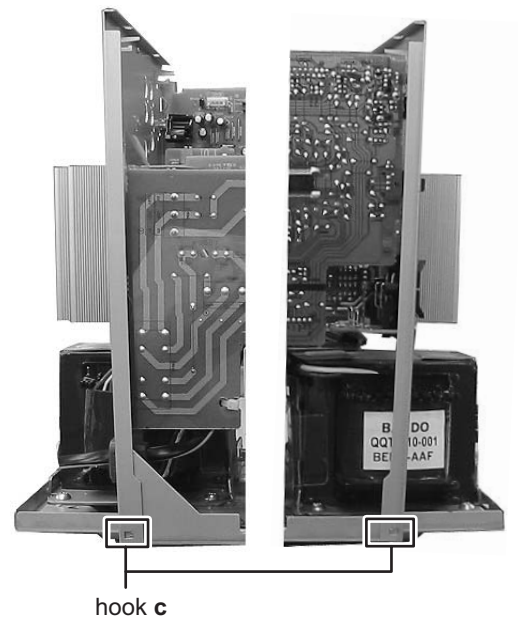

Fig.11
- (2) Remove the rear panel from the hook c. (See Fig.11)